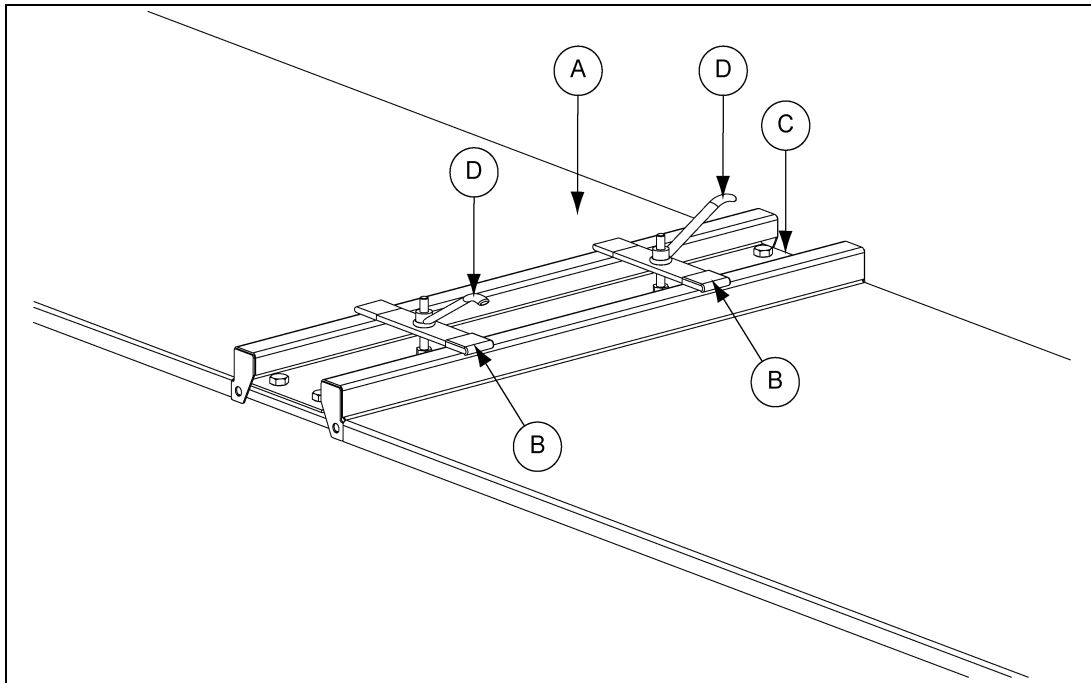

Figure 4B
1. Intermediate sections bolt together along the side and bottom flanges. The covers (A) are fastened to the cover channels (C) by flat clips (B) and easy grip handles (D). (See Figure 4B.)